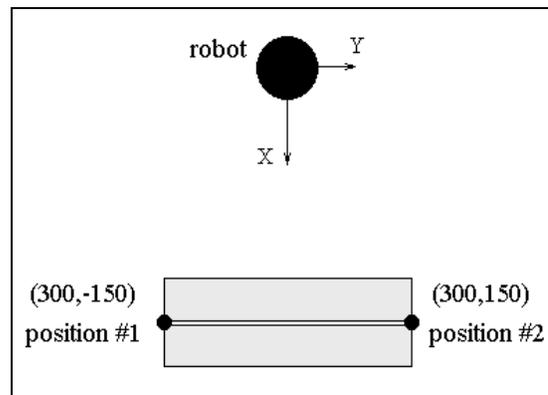

Figure 10-1
While the virtual robot always has a gripper attached to its end effector, you will pretend in this activity that the robot has a welding tool attached. The robot (whose base is shown in Figure 10-1) needs to move the TCP along the edge of the two adjacent blocks to simulate a welding operation. The two end positions, #1 and #2 (whose distance from the origin is equal), were recorded and their encoder values are shown in Figure 10-2.
- 1 Record position #1 and #2, according to Figure 10-1. For both positions, set the Z coordinate to 60 mm and the pitch to -90° .